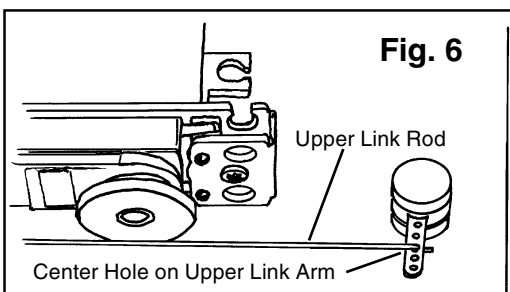

Fig. 6
**8)** Attach upper link rod to center hole on Upper Link Arm. see **Fig. 6**